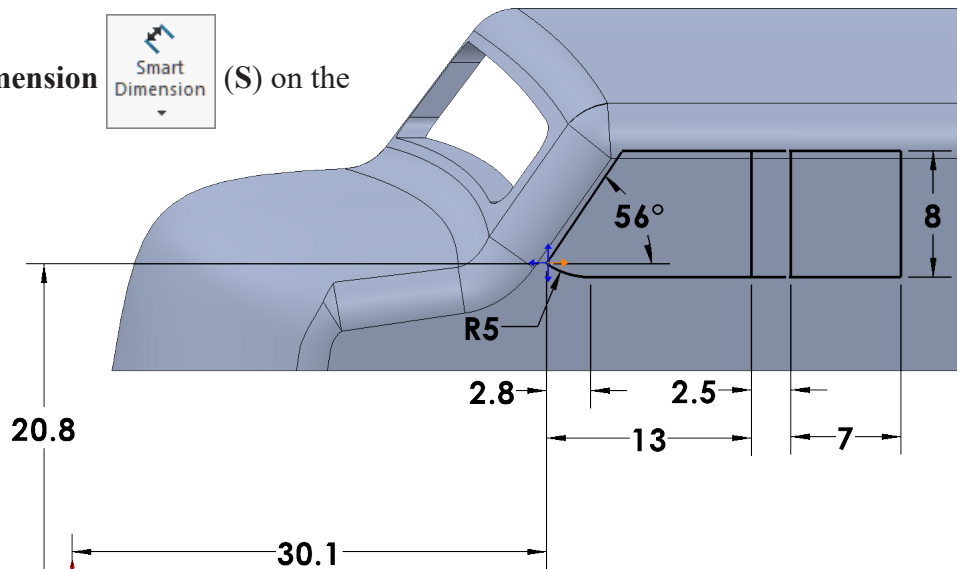

Fig. 59
Step 8. Click **Smart Dimension** (S) on the Sketch toolbar.
Step 9. Add dimensions, **Fig. 59**. To dimension angle to imaginary line, click line and bottom endpoint, then click the **right horizontal crosshair** and place dimension.